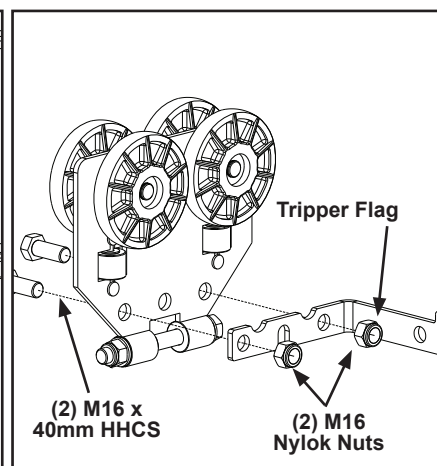

Figure 3-136
- Step 3. Secure tripper flag bracket to trolley by inserting two (2) M16x40mm HHCS through trolley bolt hole pattern and tripper flag bolt hole pattern. **Tighten until bolts are snug + ¼ turn.** Do not over tighten. Over tightening could cause bracket to bend. See Figure 3-136.